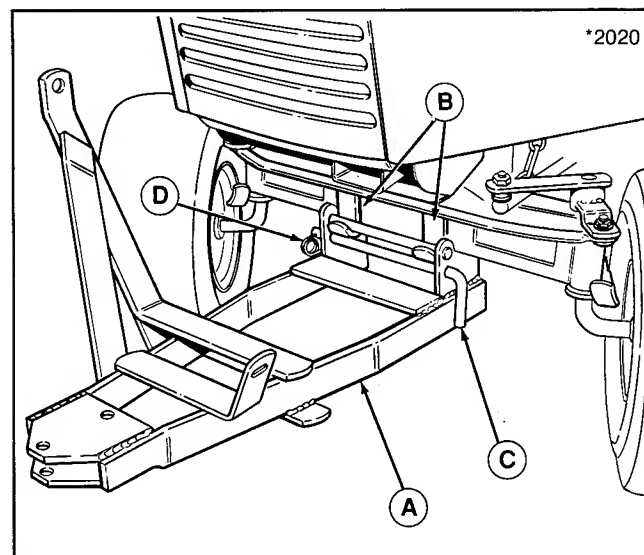

Figure 4.
3. Position the push bar hitch (A, figure 4) onto the tractor frame brackets (B). Secure push bar with pin (C) and safety clip (D).
5. Remove the hitch pin (C, figure 4) and spring clip securing push bar to tractor frame brackets (B). Remove push bar.